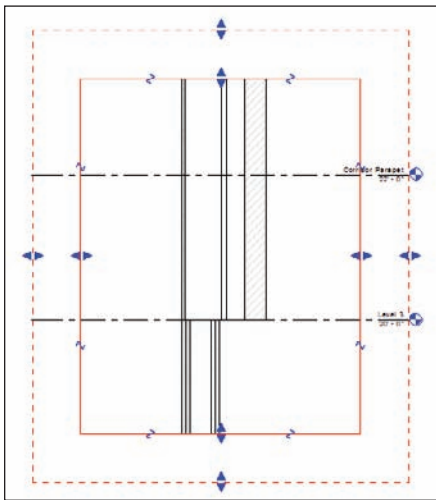

FIGURE 3.63 Selecting the crop region
12. With the section open, select the crop region, as shown in Figure 3.63.